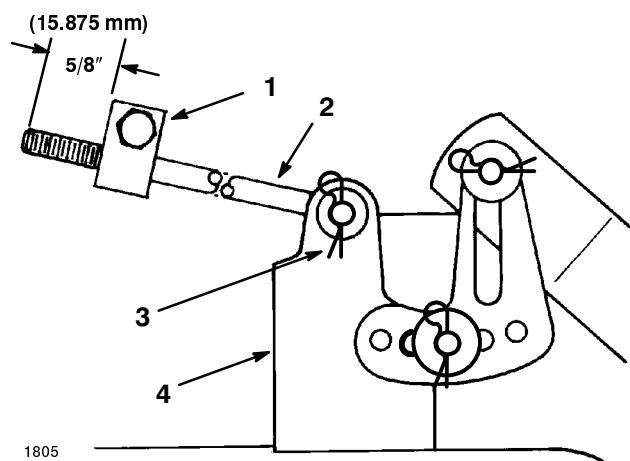

Figure 55
3. Measure the length of the rod extending out the front of the adjusting block on the sides of the chassis (Fig. 55). If the rod length is not  $5/8"$  (15.875 mm), remove the hair pin cotter and washer from the end of the rod (Fig. 55), and turn the rod until the  $5/8"$  (15.875 mm) dimension is obtained. Then install the end of the rod into the hole in the mower mount and secure in place with washer and hair pin cotter. Repeat this procedure on the opposite side of the mower.